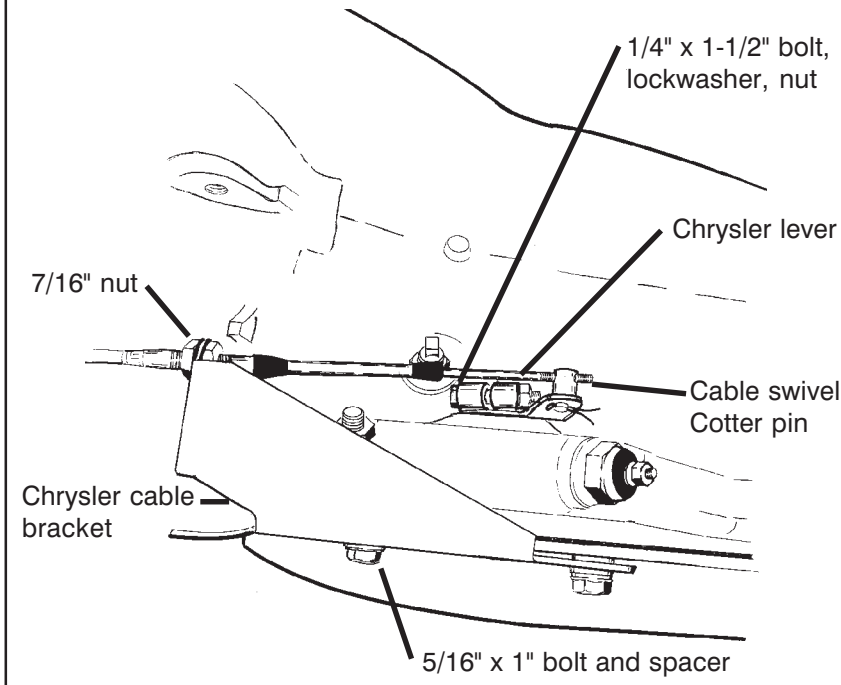

Figure 9
STEP 21. If you have not already done so, loosen pinch bolt on throttle lever on transmission. This is the lever on the small diameter shaft. Pry the lever off with a screwdriver and allow linkage to hang free. Remove and discard stock shift lever and stock shift linkage. Install B&M selector lever in position and tighten pinch bolt securely, (See **figure 9**). Make sure lever is not pushed down so far as to touch the transmission case. This will cause the lever to bind on the case. The lever should travel smoothly from front to back with a positive click in each gear position. Install stock throttle lever in position on small diameter shaft as removed and tighten pinch bolt securely. Throttle lever must operate smoothly.
STEP 22. Remove the two transmission oil pan bolts directly below the shift lever. Install cable bracket in position, (See **figure 9**), with two spacers between the pan and bracket. (If your transmission is equipped with a cast aluminum oil pan these spacers can be omitted.) Install the two 5/16-18 x 1.00" pan bolts supplied and tighten to 12-13 ft. lbs. Do not overtighten as this can damage pan gasket.